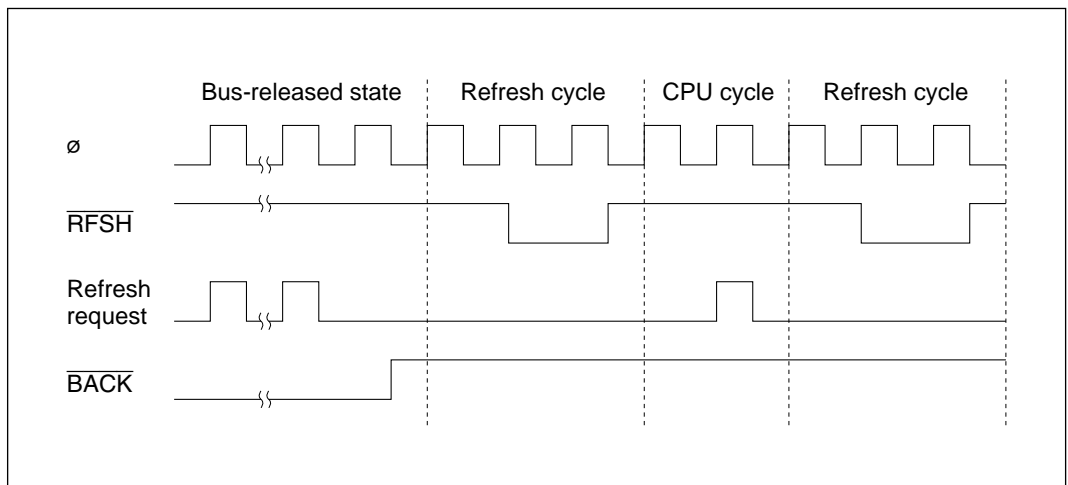

Figure 7-23 Refresh Cycles when Bus is Released
- If refresh requests occur while the bus is released, the first request is held and one refresh cycle is executed after the bus-released state ends. Figure 7-23 shows the bus cycles in this case.